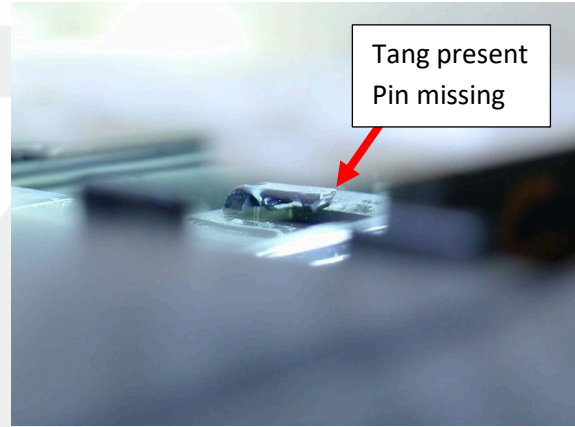

Figure 2 – Tang is present and secure, latch pin missing – Go to Step 9
- If the tang is present and secure, but the latch pin is missing (Figure 2), install an updated latch pin. Skip to step 9.